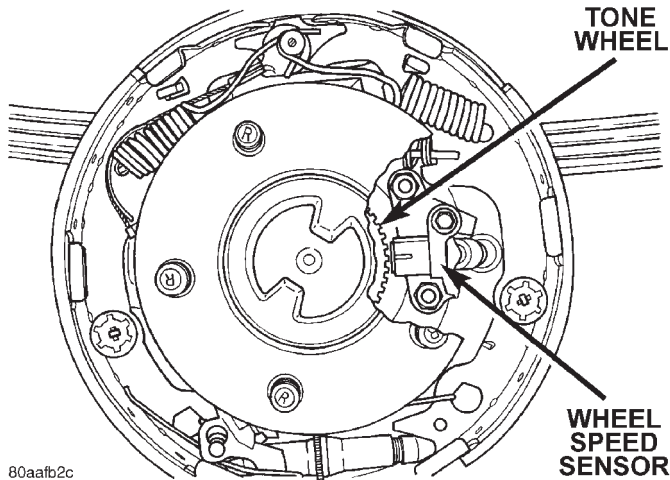

Fig. 9 Wheel Speed Sensor
- (1) Disconnect sensors at rear harness connectors.
- (2) Remove wheel and tire assembly.
- (3) Remove brake drum.
- (4) Remove clips securing sensor wires to brake lines, rear axle and, brake hose.
- (5) Unseat sensor wire support plate grommet.
- (6) Remove bolt attaching sensor to bracket (Fig. 9) and remove sensor.